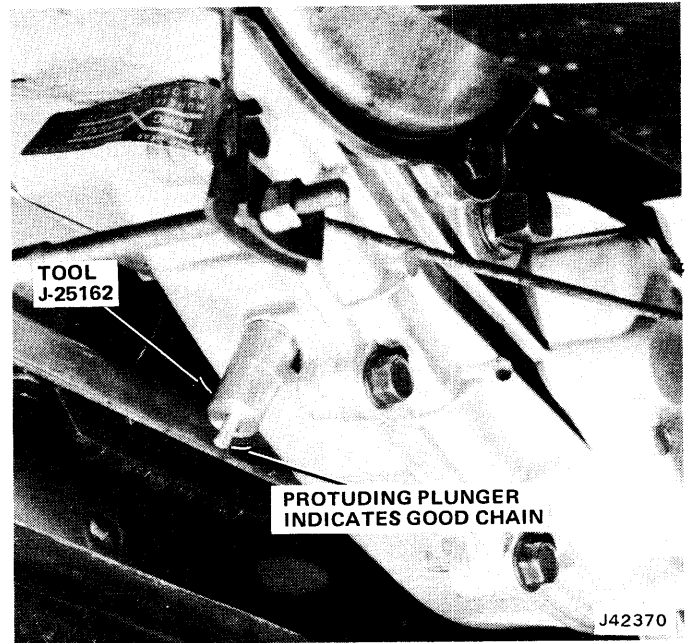

Fig. 8-20 Chain Tension Gauge Installed
(1) Remove transfer case drain plug and drain lubricant. Install drain plug.
(2) Remove chain inspection plug.
(3) Thread Chain Tension Gauge, J-25162, into inspection hole just finger-tight until tool shoulders against case.
(4) The tool plunger should protrude past the outer end of the checking tool (fig. 8-20). If tool plunger is